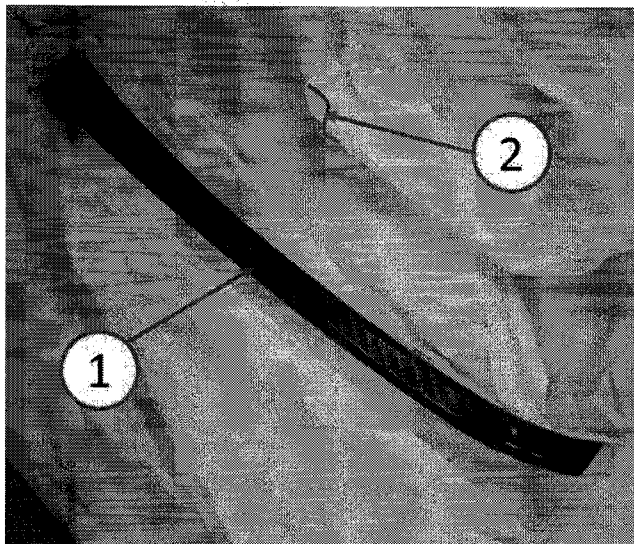

Fig. 5 Protect Adjacent Areas
1. Mask and protect adjacent areas of the repair area prior to beginning the finishing procedure (Fig. 5).